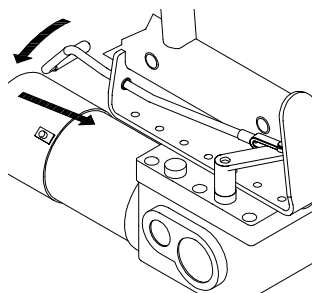

FIGURE 1 - ENGAGING MOTORS WITH CLUTCHES
2. Perform one (1) of the following:
- A. **ENGAGING (FIGURE 1) -**